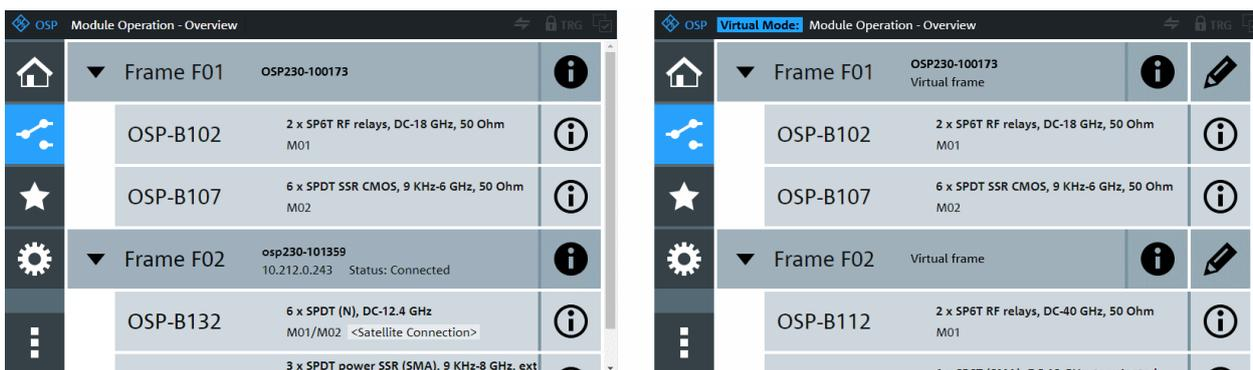

Figure 5-5: The module operation dialog (right: in Virtual Mode, which also allows editing)
- The list view of the "Module Operation" dialog (Figure 5-5) provides the following functions:
Starting from the "Module Operation" dialog in **list view** as in Figure 5-5, click a module's entry to operate this module in its individual **interaction dialog** (detail view).